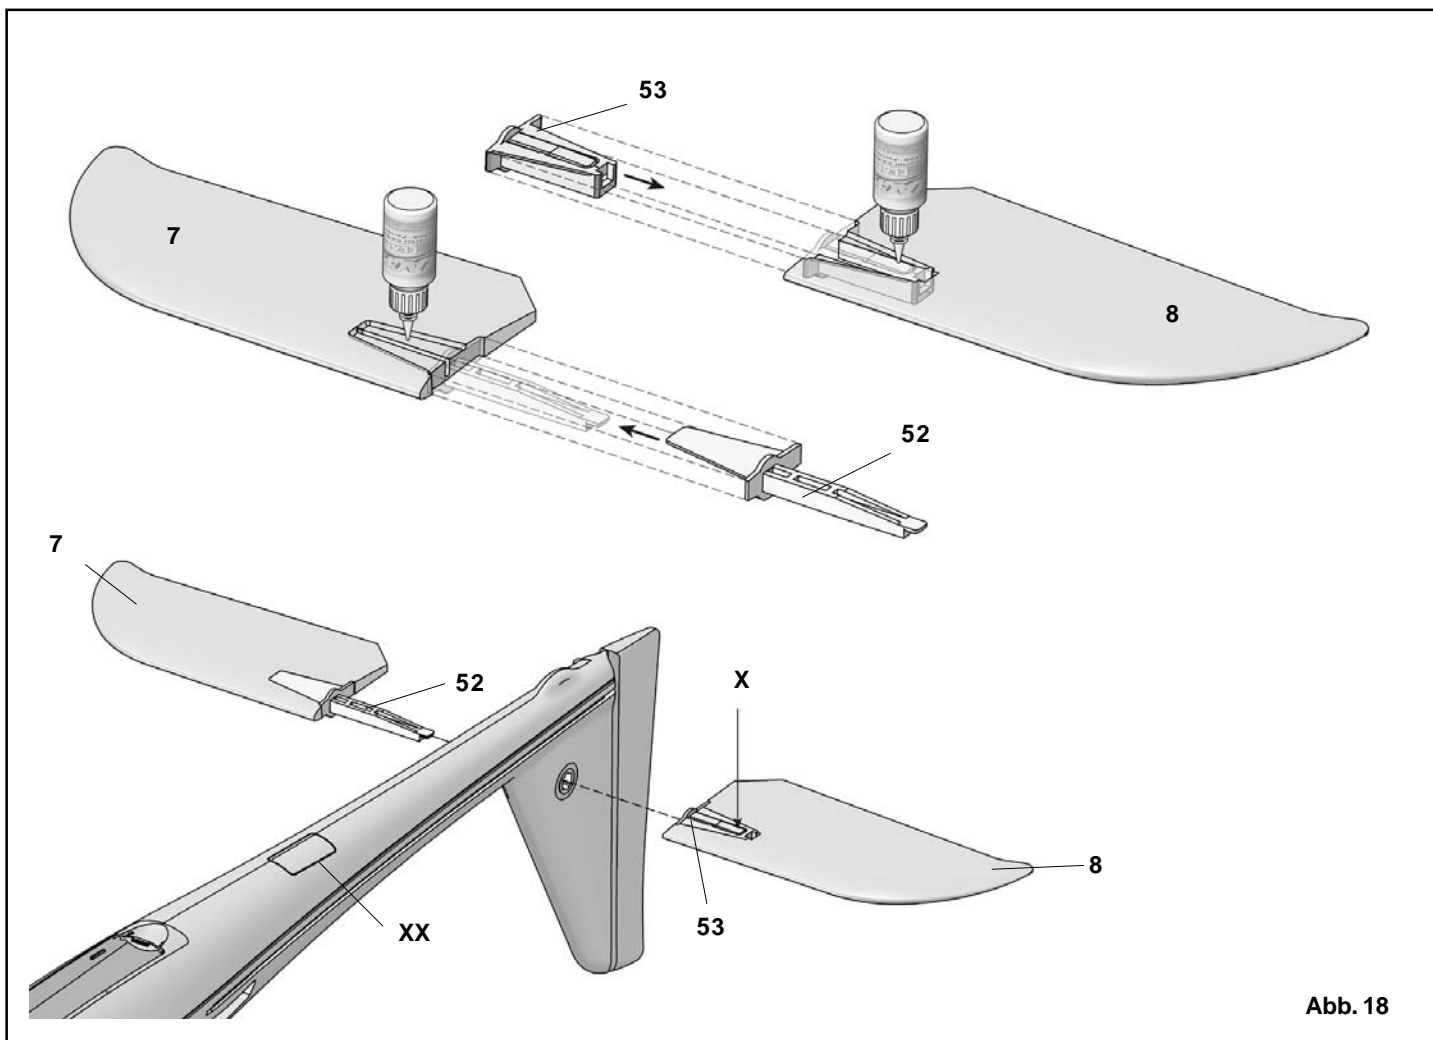

Abb. 18
4. Completing the tailplane, Fig. 18